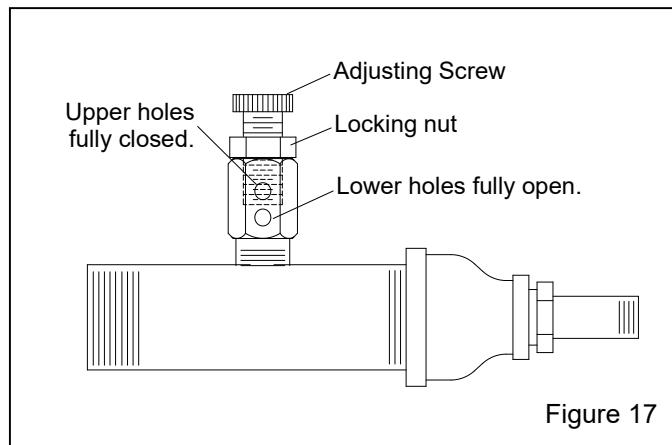

Figure 17
5.5 Media Metering (media-air mixture) – Figure 17
5.5.2 If the air exiting the nozzles pulses or if media does not flow smoothly, the metering valve for the corresponding nozzle requires adjusting. To adjust it, first loosen the locking nut and adjust the metering screw until the holes closest to the locking nut are closed off and the holes farthest from the nut are fully open, as shown in Figure 17.